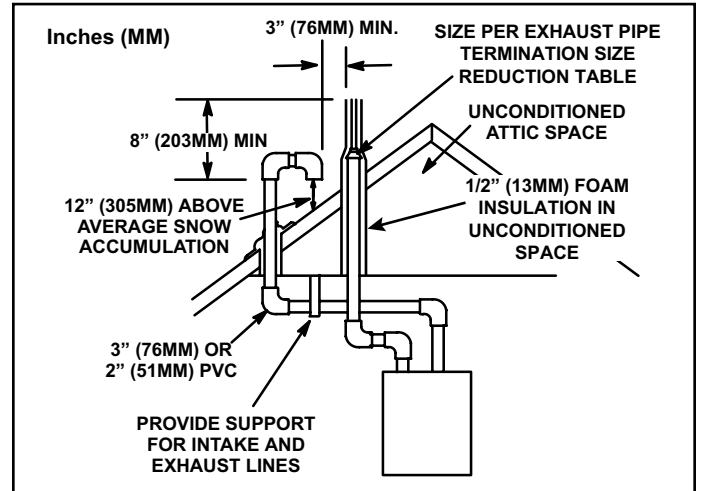

Figure 31. Direct Vent Roof Termination Kit (15F75 or 44J41)
Intake and exhaust pipes may be routed either horizontally through and outside wall or vertically through the roof. In attic or closet installations, vertical termination through the roof is preferred. Figure 31 through Figure 38 show typical terminations.
3. On roof terminations, the intake piping should terminate straight down using two 90° elbows (see Figure 31).